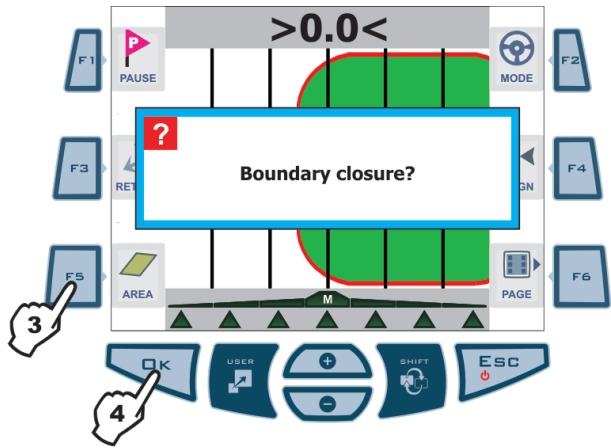

Fig. 124
- 4 Message **Boundary closure?** is displayed. Press **OK** (Fig. 124).